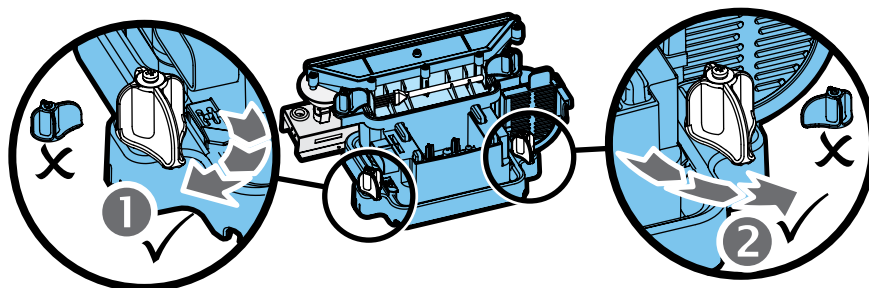

Fig.9
5. Release the lower sump locking tabs by turning 90°, this allows the sump to be lifted completely from its location. (See Fig.9)